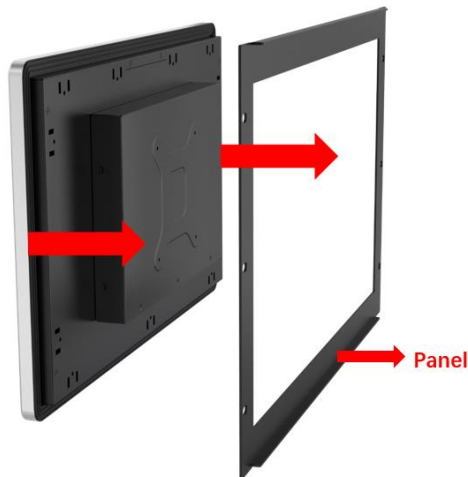

Figure 3-16: Slide into the Panel
Step 3: Slide the monitor through the hole until the aluminum frame is flush with the panel (Figure 3-16).